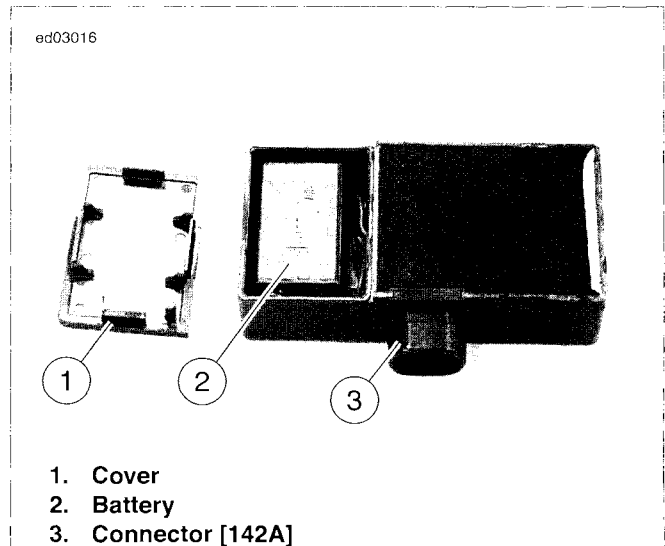
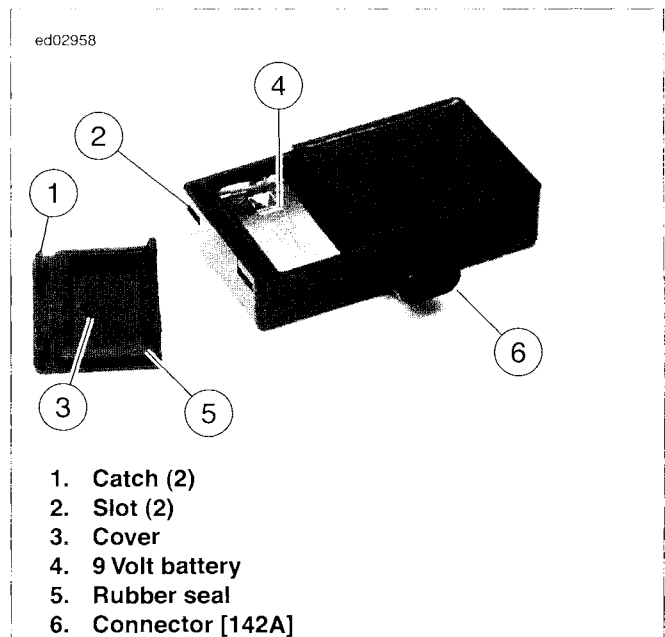

Figure 7-108. Battery Compartment (Early Style Siren)
Figure 7-109. Battery Compartment (Late Style Siren)
- See Figure 7-108 and Figure 7-109. Early style siren works with both TSSM and HFSM. Late style siren only works with HFSM.
2. See Figure 7-108. Remove battery cover.
2. See Figure 7-109. With a small screwdriver or pick, push the catches (1) in through the two slots (2) in the end of the siren to release the battery cover (3).